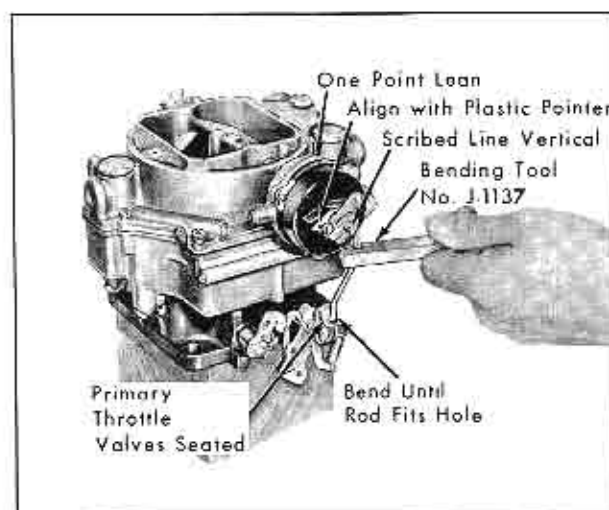

Fig. 12-35 Choke Modifier Adjustment
1. Loosen choke cover retaining screws and rotate climatic control assembly to index setting (central mark on choke housing). Retighten retaining screws. Refer to Fig. 12-35.
throttle shaft, as shown in Fig. 12-35, when pointer is aligned as in Step 4 above, and primary throttle valves are seated.